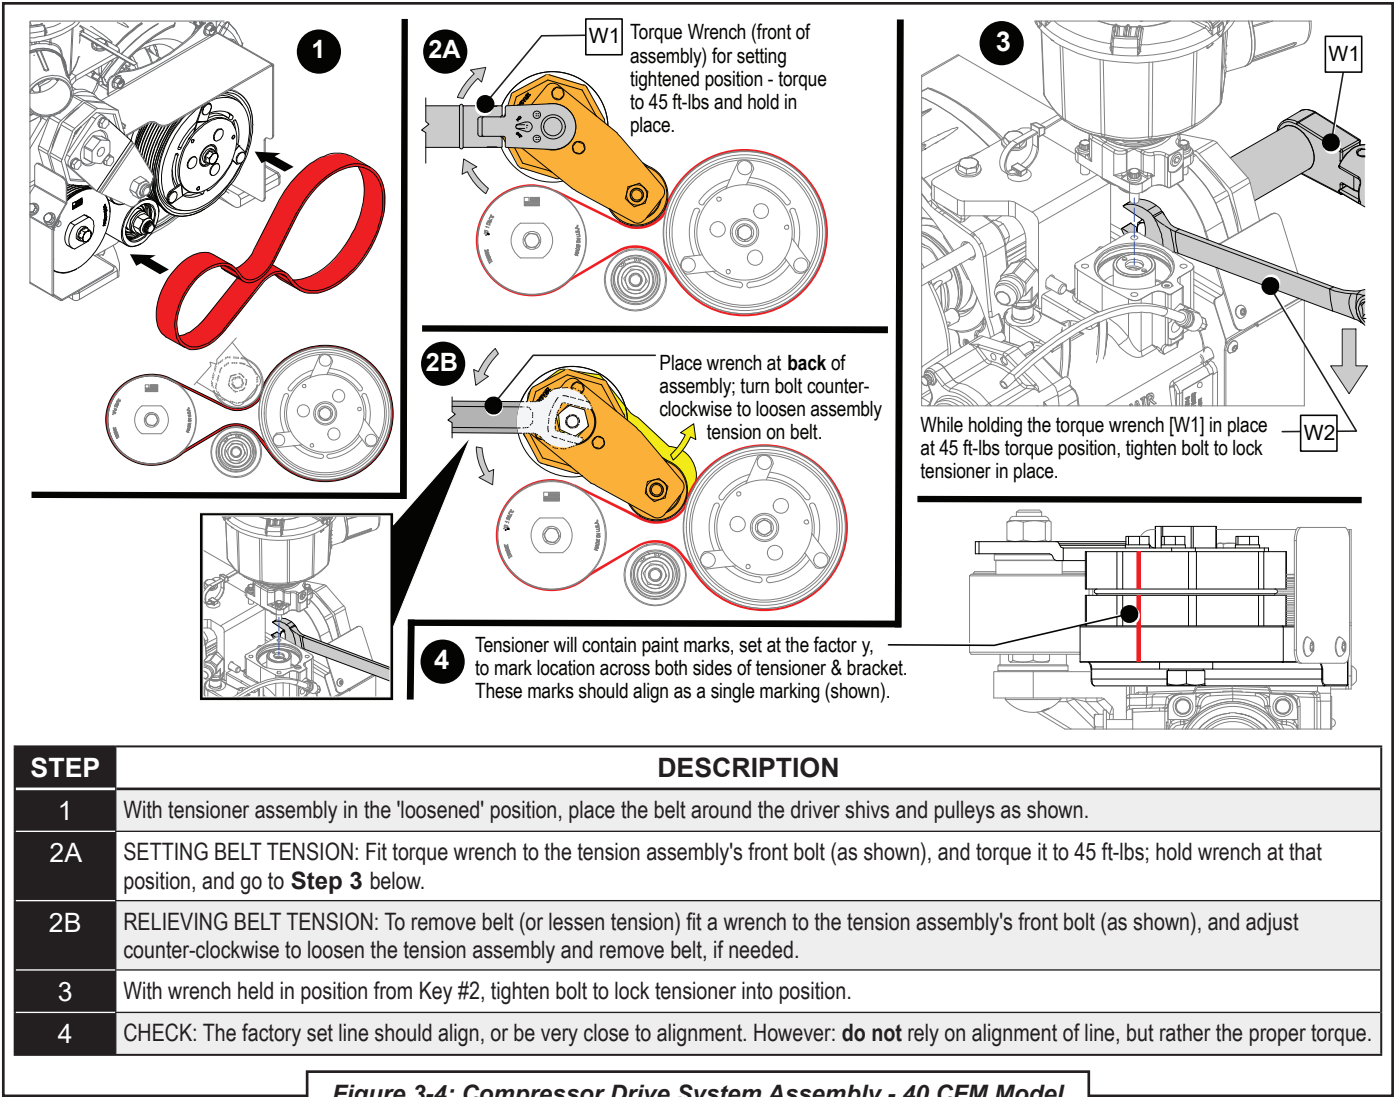

Figure 3-4: Compressor Drive System Assembly - 40 CFM Model
1. To adjust belt tension place wrench at the [W1] position shown in **Figure 3-4**, and loosen the locking bolt.
1. If not already loosened, ensure that the tensioning assembly is in the "loosened tensioner position" (as shown in **Figure 3-4**), by placing a wrench on the [W1] position, and
- Place and route the replacement belt as shown in **STEP #1** in *Figure 3-4*.